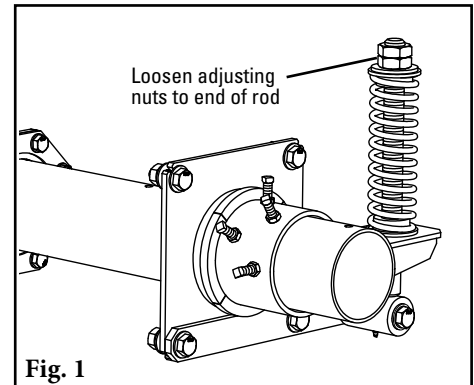

Fig. 1
1. **Remove the tension.** Loosen the adjusting nuts on both sides and turn them out until they are flush with ends of the pivot arms (Fig. 1). This releases the tension of the blades on the belt.